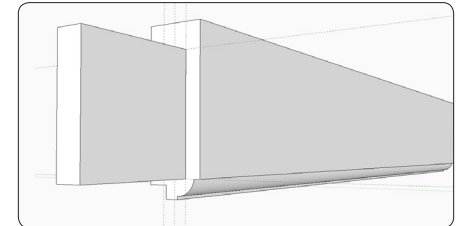

Figure 60. Create a tenon on one end and copy it to the opposite end.
Step 3 Draw the tenon on the end; the size depends on the window or door you're making (Figure 60). Then copy it, execute a Flip Along command, and attach the copy to the opposite end of the rail.